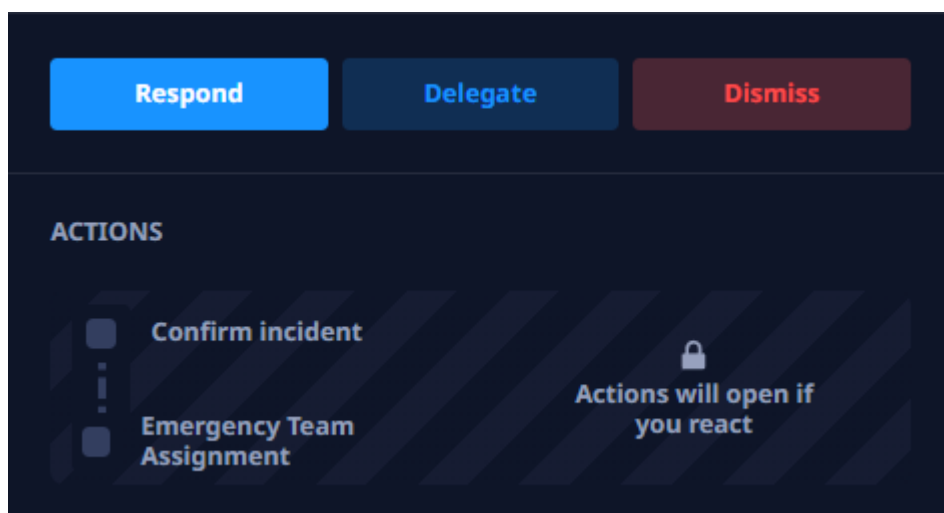

Figure 16. "Respond" button
1. Click the **Respond** button (see Figure 16).